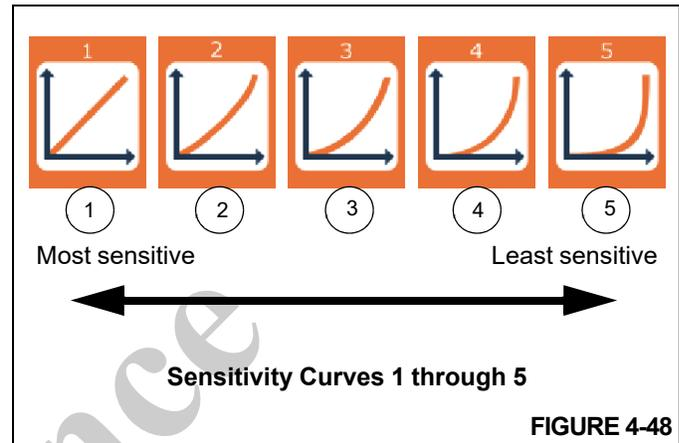

FIGURE 4-48
Five different sensitivity curves are available to select from (curves 1 through 5). Sensitivity curve 1 is the default curve and causes the function speed to increase or decrease equally with an equal amount of movement of the controller (Figure 4-48).
3. Using the Jog Dial or the Up/Down Arrow Buttons, select one of the five possible sensitivity curves (Figure 4-48).